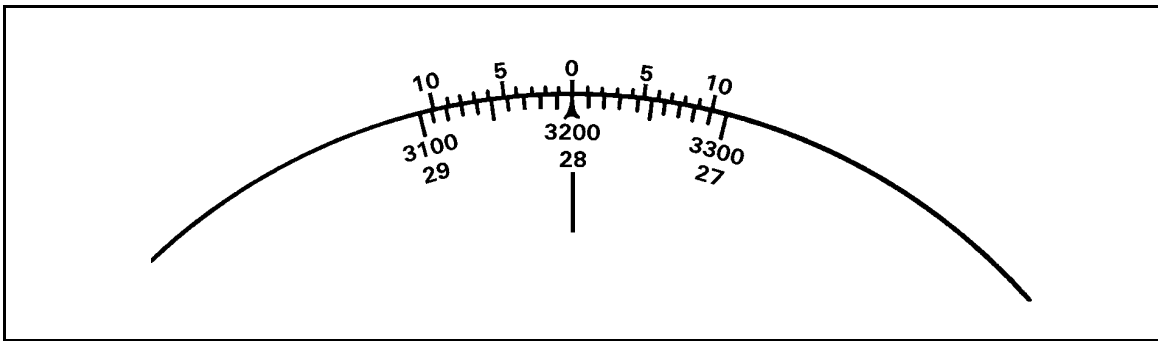

Figure 12-2. Superimposition of referred deflection scale under the mounting azimuth.
(4) *Superimposition of referred deflection.* The referred deflection is superimposed (written) on the azimuth disk under the mounting azimuth using the LARS (left add, right subtract) rule. The disk is normally numbered 400 mils left and right of the referred deflection (Figure 12-2), which is usually enough to cover the area of operation. However, if needed, the deflection scale can be superimposed all the way around the azimuth disk.